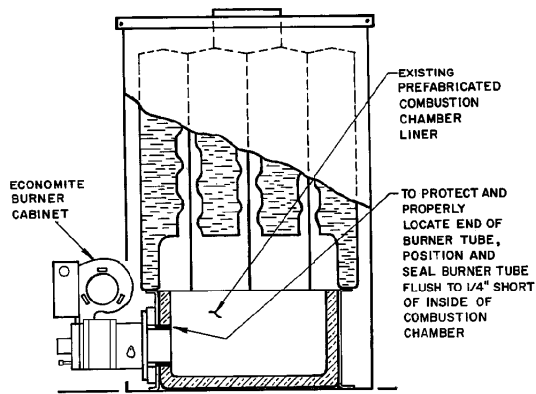

FIGURE 2 Dry Base Boiler With Combustion Chamber Liner (Furnace Construction is Similar)
⚠ WARNING: BURNER CABINET MUST BE MOUNTED IN ORIENTATION SHOWN IN FIGURES 2 AND 3. ANY OTHER MOUNTINGS MAY CAUSE DANGEROUS CONDITION, AND WILL VOID BURNER WARRANTY AND AGENCY APPROVALS. NON-STANDARD ARRANGEMENTS MAY BE AVAILABLE FOR SOME MODELS; CONSULT FACTORY FOR DETAILS IF REQUIRED.
- Make sure that the burner tube is properly positioned in the combustion chamber entry. It must be set flush to 1/4" short of the inside of the combustion chamber as shown in Figure 2 or 3. It must not protrude into the combustion chamber.